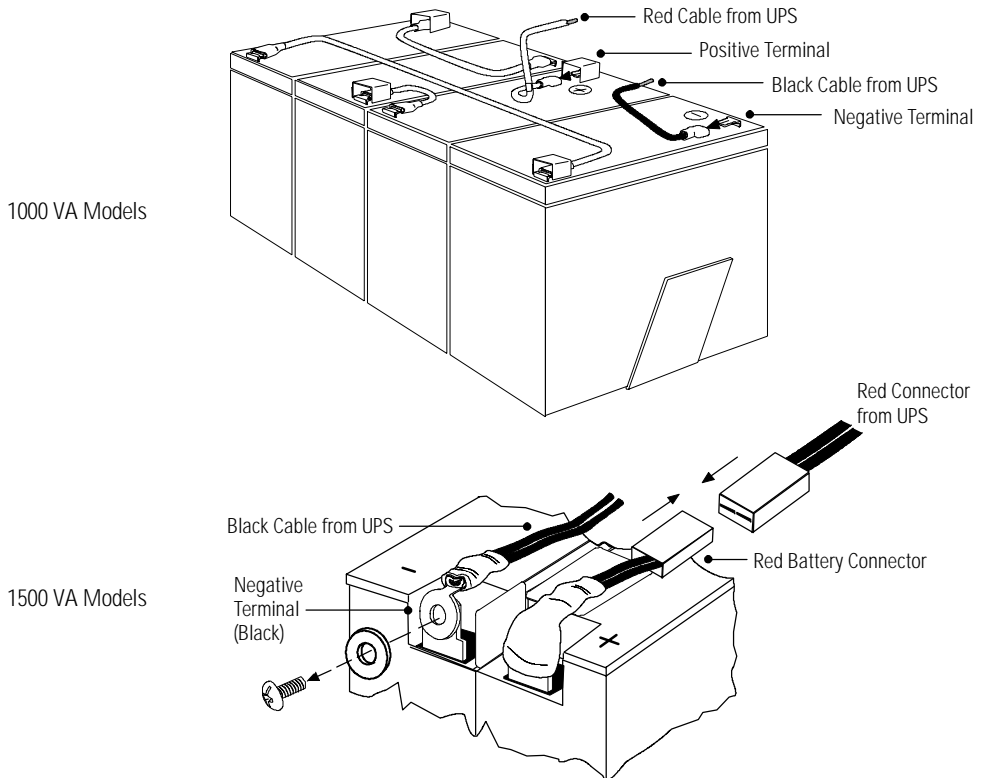

Figure 16. Internal Battery Connections
5. Connect the new batteries to the UPS as shown in Figure 16 and reinstall.